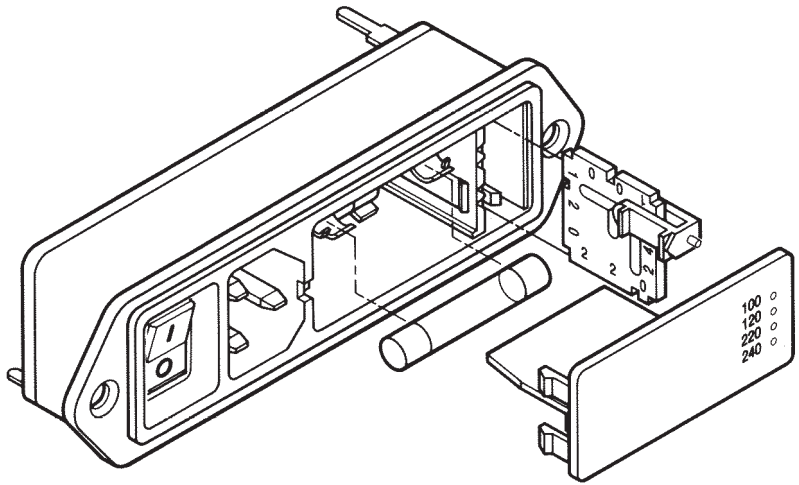

Fig. 2.1. Power entry module assembly.
See Figure 2.1
2. If necessary, replace the fuses with ones having the correct current rating. For 100 V and 120 V operation, ensure that two 0.25 A fuses are inserted in the upper and lower fuse holders (Figure 2.1). For 220 V and 240 V operation, insert two 0.125 A fuses into the fuse holders.